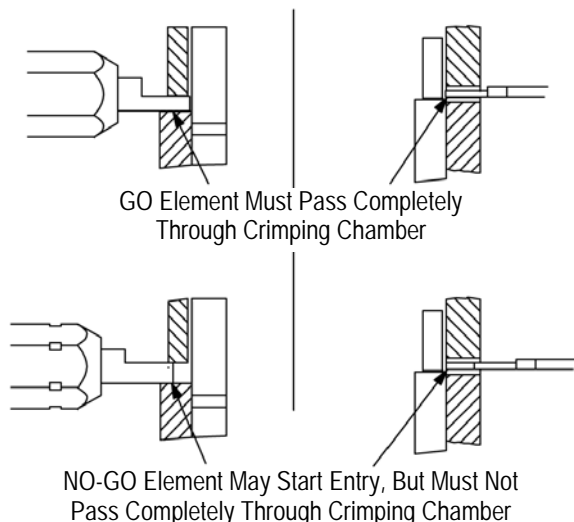

Figure 5
This inspection requires the use of plug gages conforming to the dimensions provided in Figure 5. TE does not manufacture or market these gages.
*The GO element must pass completely through the crimping chamber. See Figure 5.*
4. Align the NO-GO element and try to insert it straight into the same crimping chamber. The NO-GO element may start entry, but must not pass completely through the crimping chamber. See Figure 5.